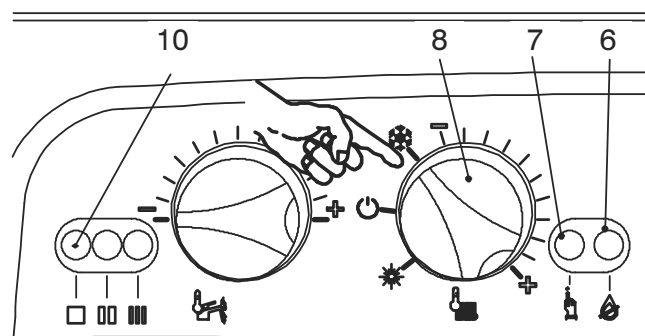

Fig. 7.4
- 2 Turn the function selector 8 as in Fig. 7.4. The appliance operation light 10 will flash every 2 seconds.